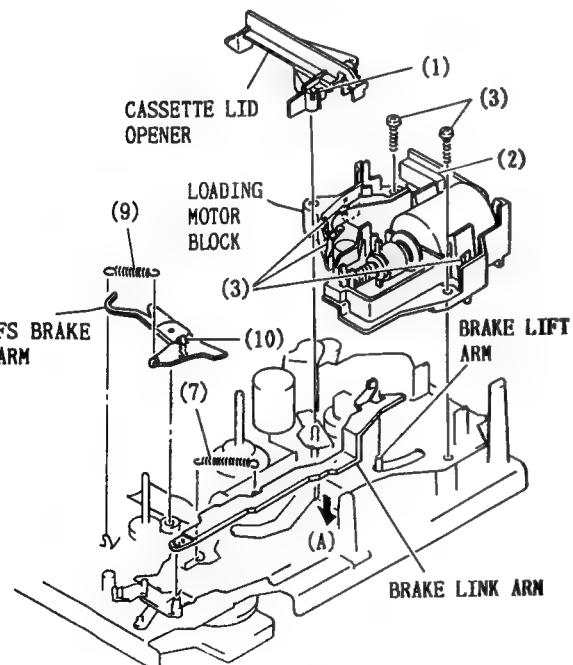

Fig. 7-9 Loading Motor Block, Brake Link Arm
9. Loading Motor Block, Brake Link Arm and FS Brake Arm (Fig. 7-9)